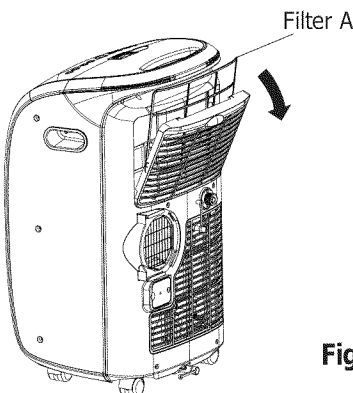
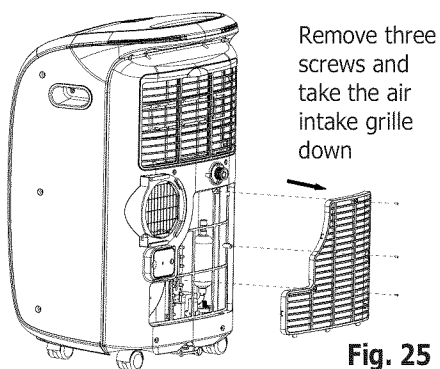

Fig. 24
Fig. 25
- This unit has two filters, they are filter A and B. Grasp the upper panel tab and take off the filter A which is behind the grill of the back panel (Fig.24). Remove the lower filter B by loosening the screws. Take down the air intake grille, then remove the air filter as shown in Fig.25 & 26.